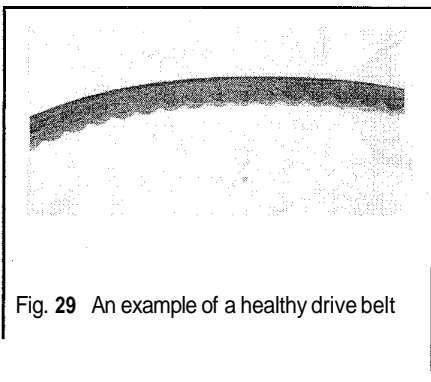

Fig. 29 An example of a healthy drive belt
- ◆ See Figures 29, 30, 31, 32 and 33